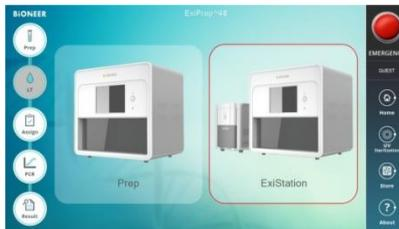

Fig. 54 Initial screen of Prep tab
- 8) Touch the Prep icon on the main screen, as shown in figure 54. Enter Prep mode for nucleic acid extraction by touching the ExiStation.